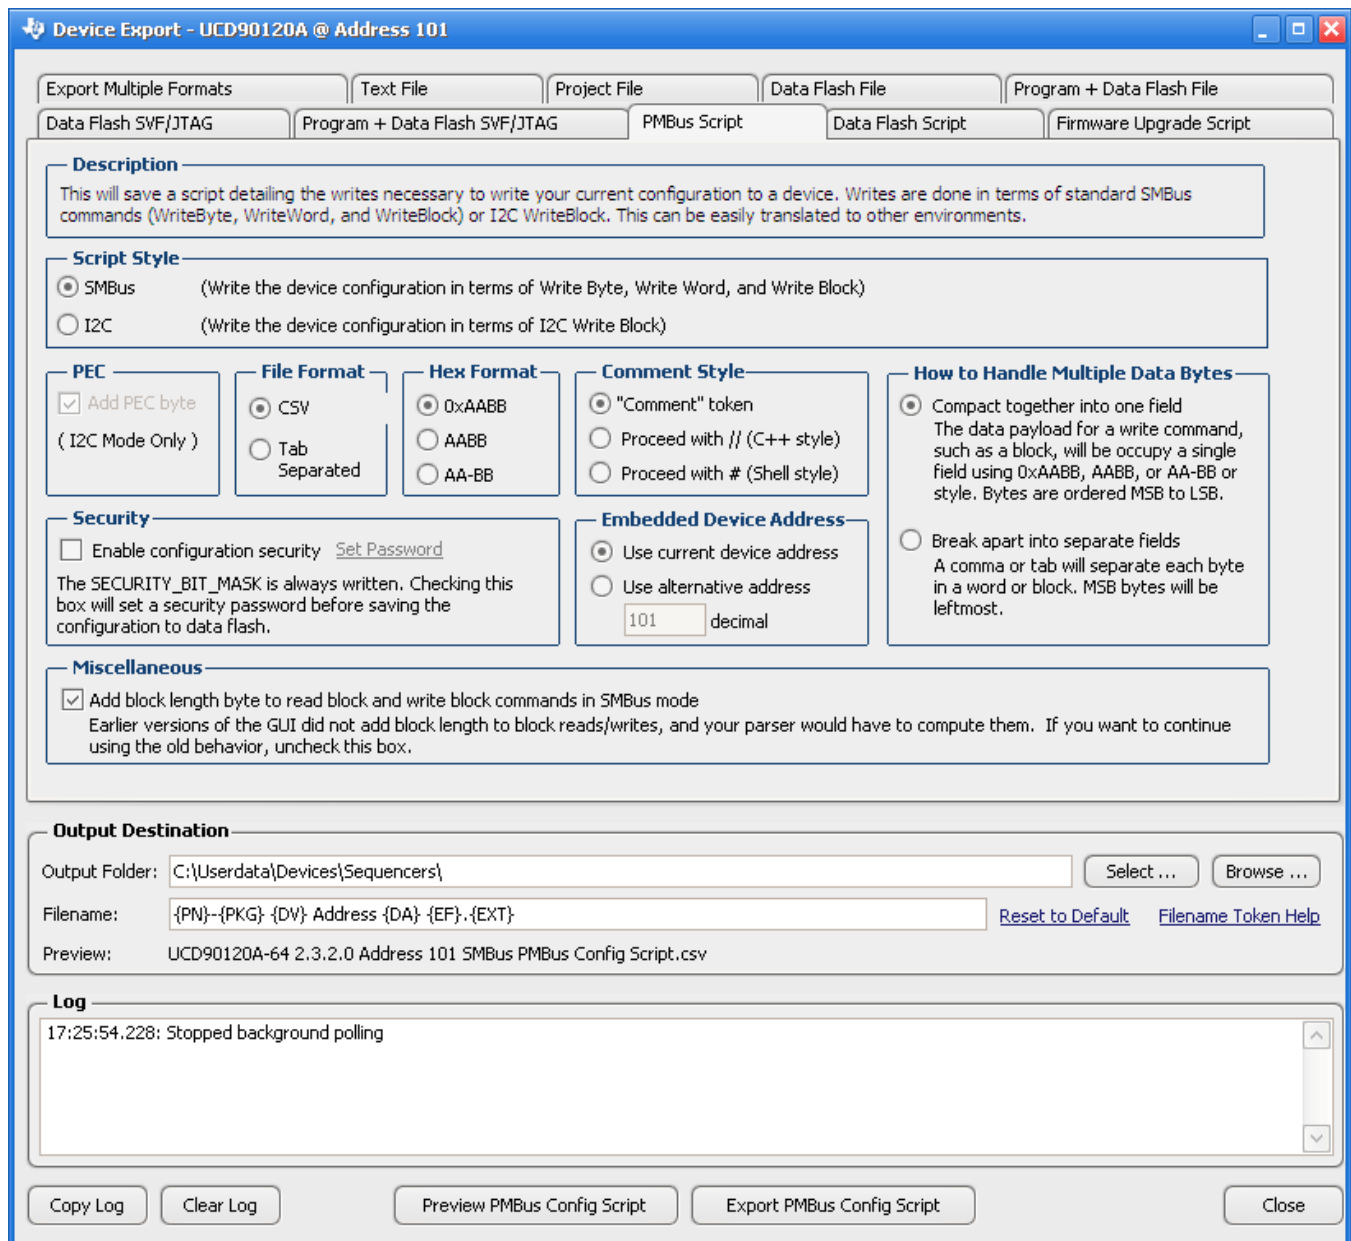

Figure 25. Fusion GUI PMBus Configuration Script Export Tool
- The *Fusion GUI* (Figure 25) can create a PMBus or I²C command script file that can be used by the I²C master to configure the device.